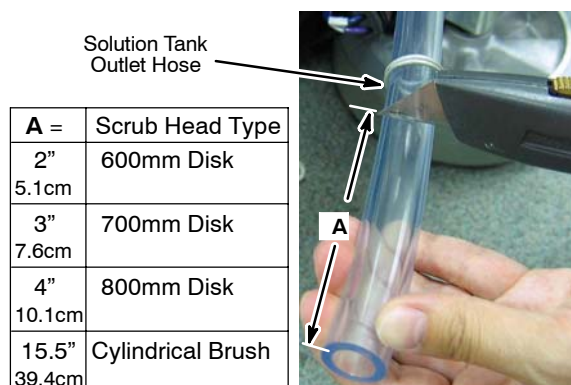

Fig. 45
14. Cut the machine's solution tank outlet hose as specified (Figure 45).